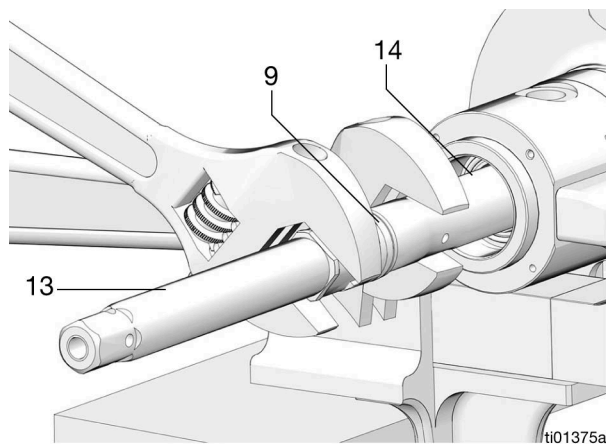

FIG. 11
12. Position a wrench on the displacement rod (14) flats and position another wrench on the fluid piston (9) flats. Loosen and remove the fluid piston (9) (FIG. 11).